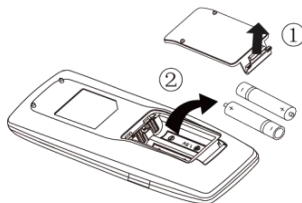

Fig.3
- (1). Slightly press the place with OPEN, and then push out the back cover of remote controller along the direction of arrow (as shown in Fig 3①).
- (2). Take out the original batteries (as shown in Fig 3②).